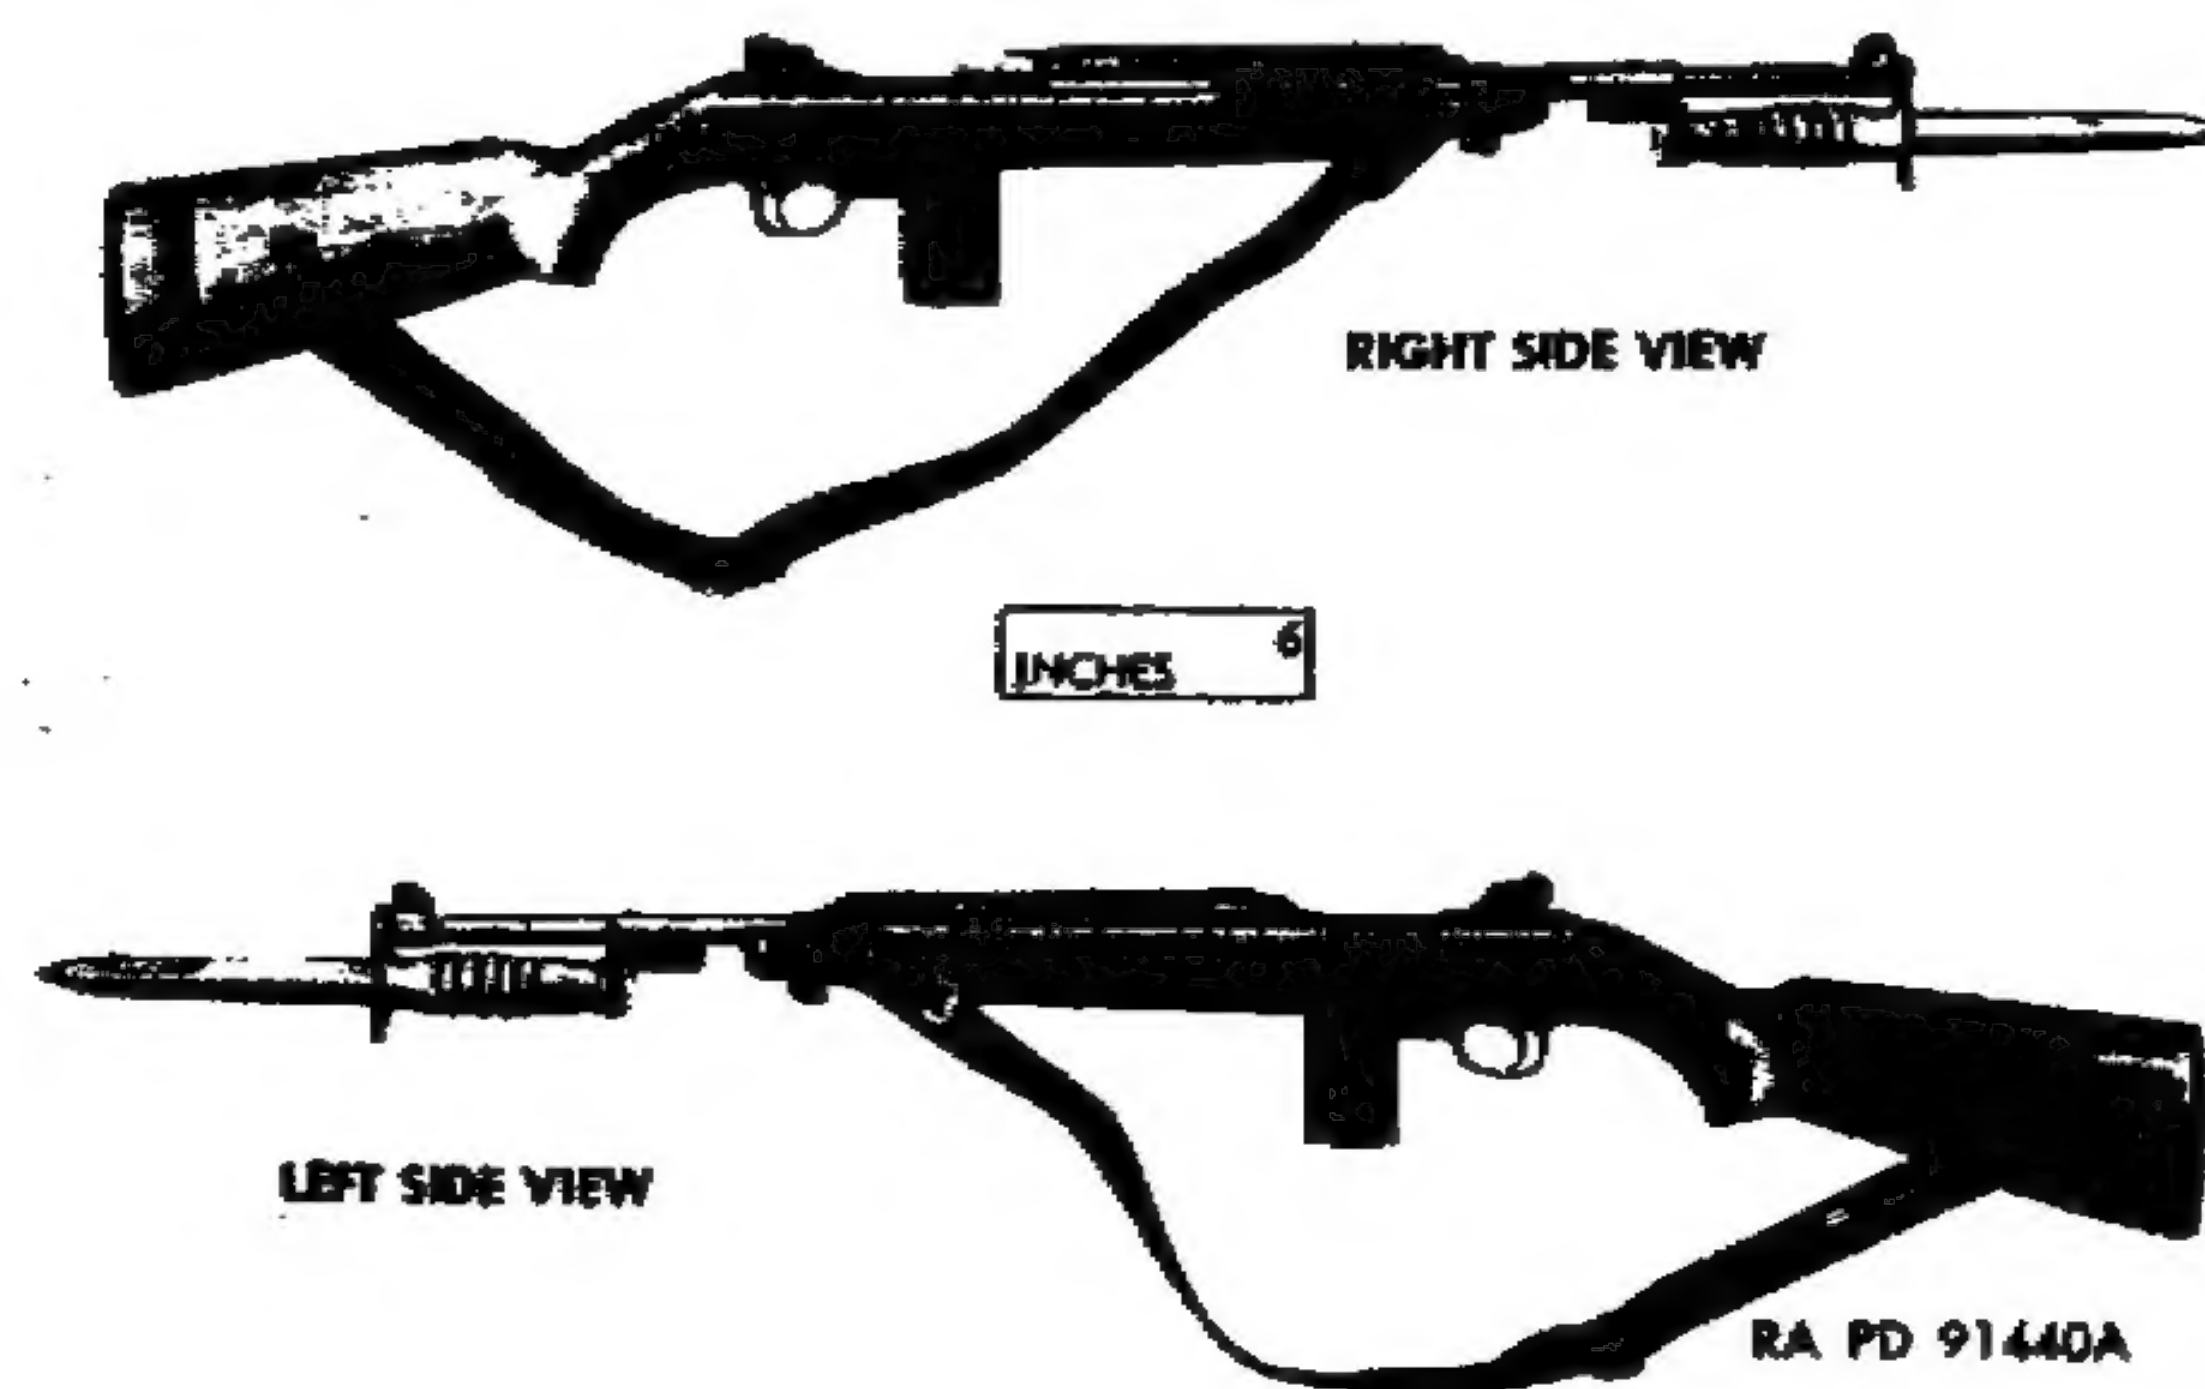

Figure 1. Cal. 30 carbine M1.
b. Cal. 30 Carbines M1 and M1A1 (figs. 1 and 2). The only difference between the carbines M1 and M1A1 is the stock. The M1 has a one-piece wooden stock, whereas the M1A1 has a folding metal stock extension and a wooden hand grip.